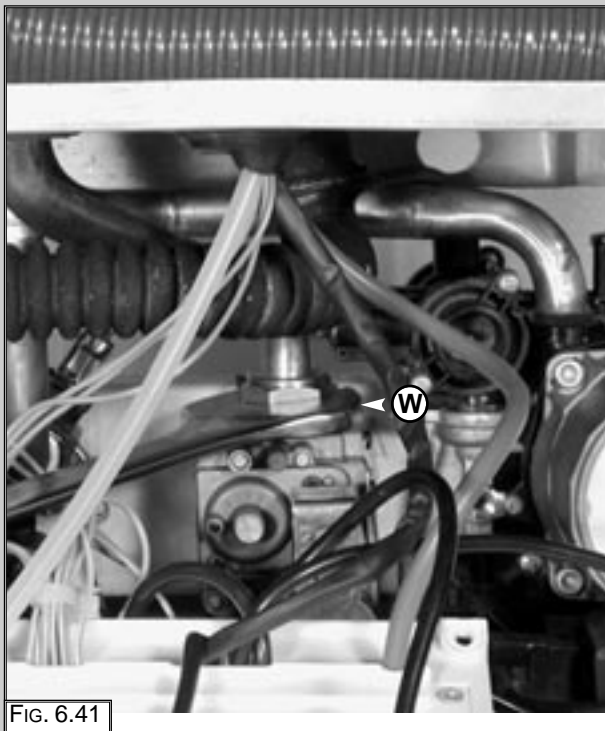

FIG. 6.41
2. Release the top nut "W" (FIG. 6.41);